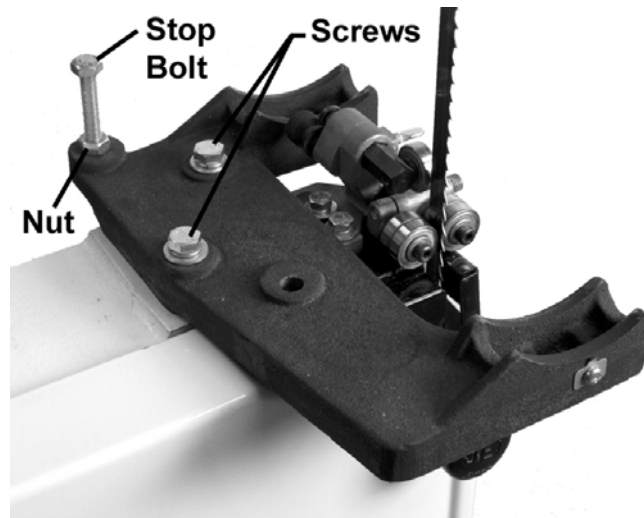

Figure 2
1. Attach trunnion support to saw body with two M8 x 40 hex cap screws and two M8 lock washers. See Figure 2.
2. Thread nut on to table stop bolt (Fig. 2) and attach to trunnion support bracket as shown.
Once table is mounted to the trunnion bracket (see section below) and the blade is mounted in the saw (see section "Changing Blades") you may choose to fine tune the blade parallel to the miter slot. Using a square positioned in the miter slot, loosen screws shown in Figure 2 and lightly tap the table into position so the blade is parallel with the miter slot. Then gently tighten down the screws. This adjustment will ensure square cuts when using a miter gauge. This adjustment will NOT correct drift of a blade when ripping with a rip fence.